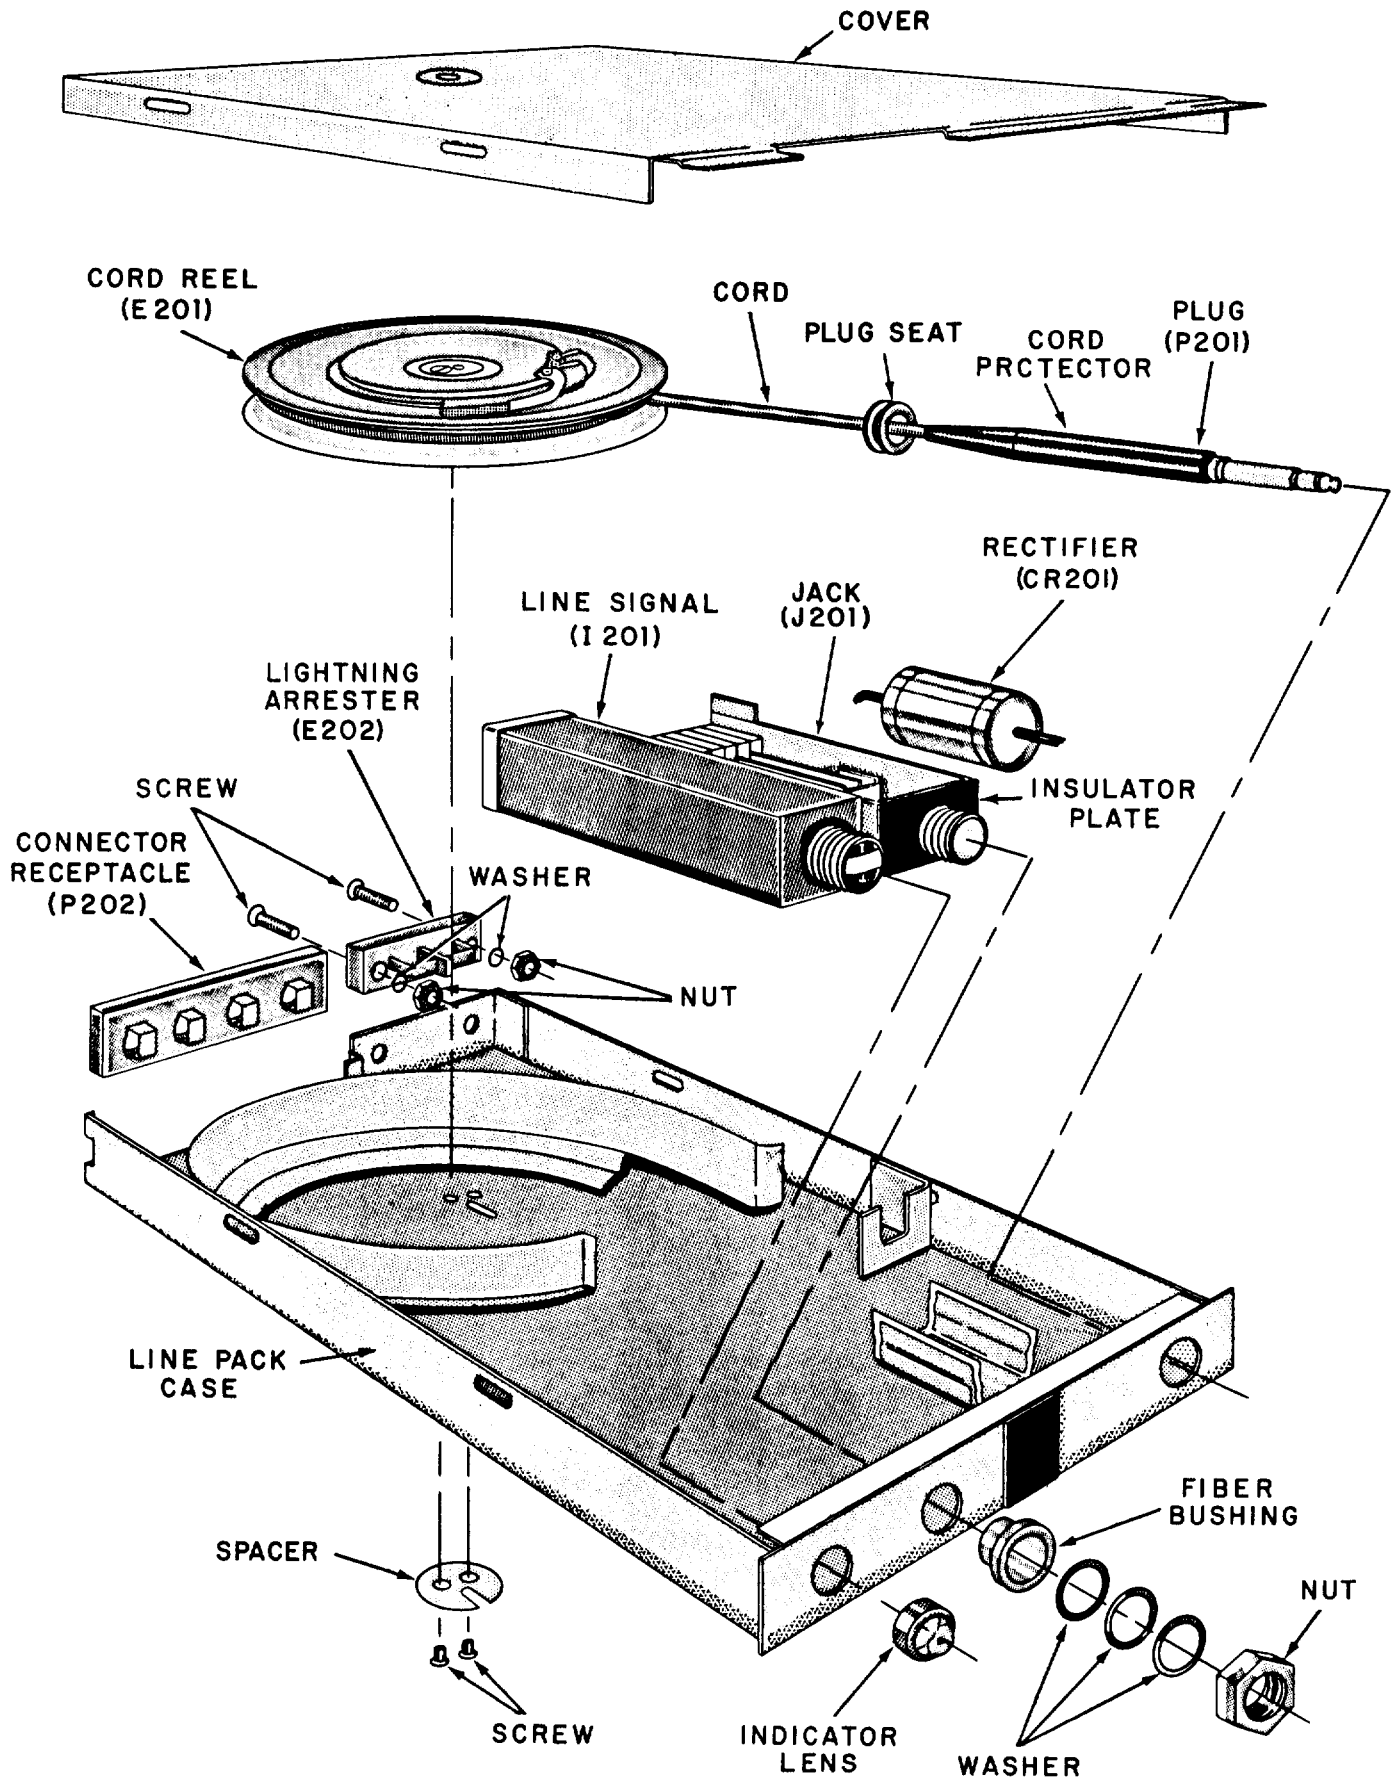
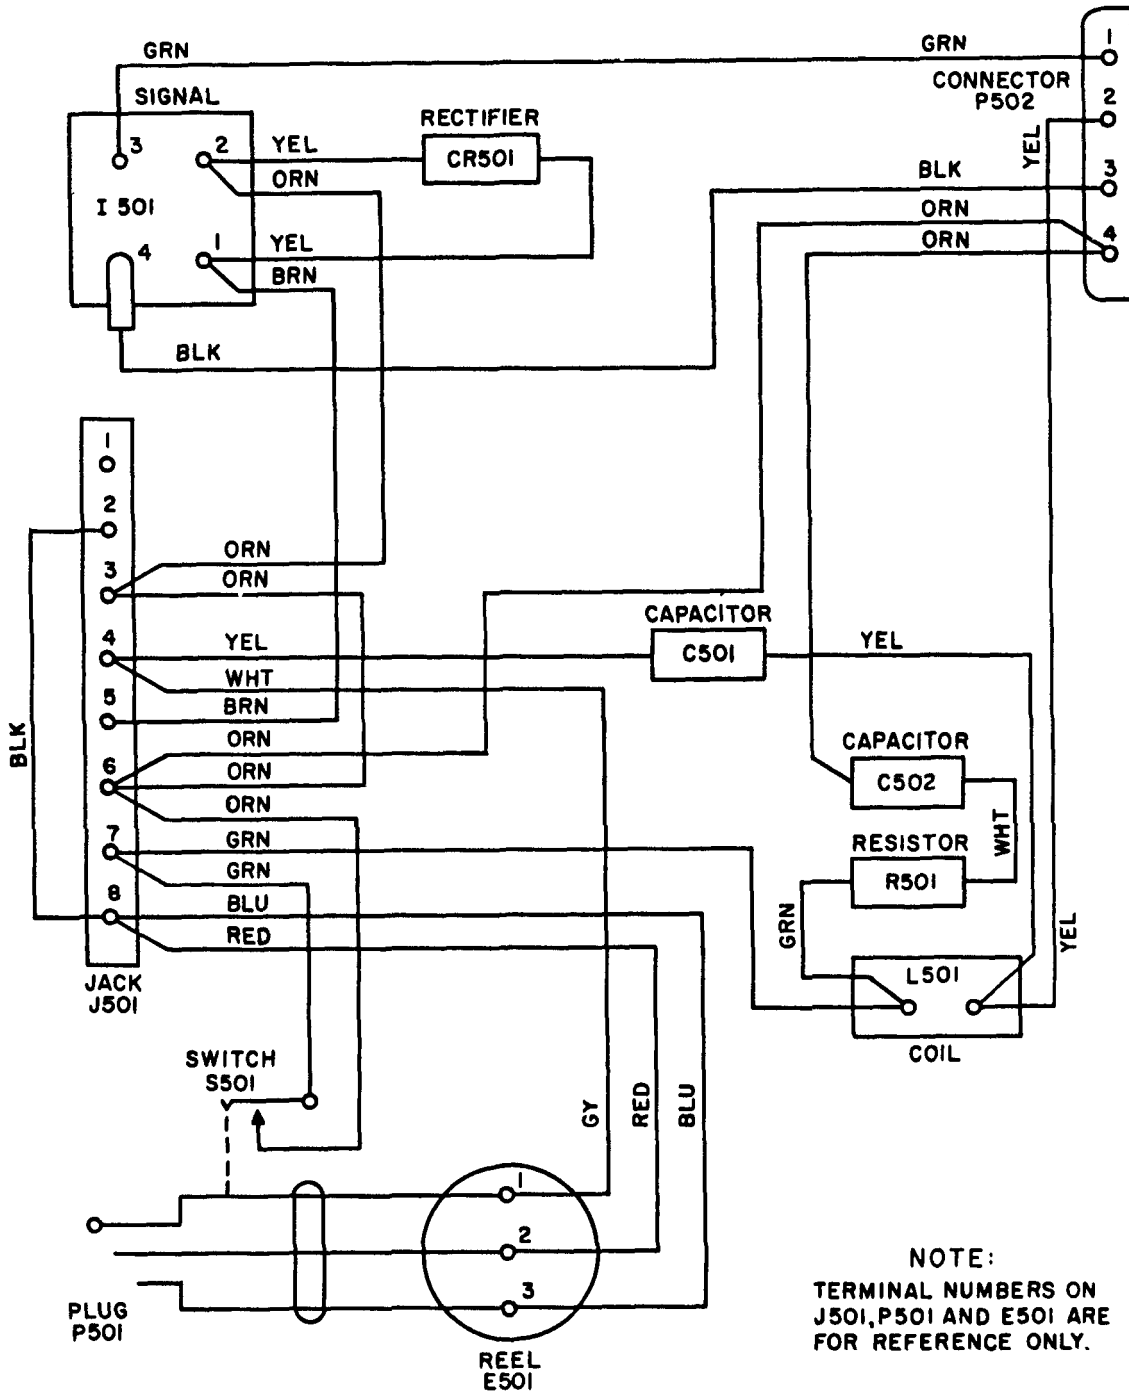

Figure 2-1. Telephone Circuit, Line Jack TA-222/PT, Exploded View.
Figure 2-3. Telephone Circuit, Trunk Jack TA-326/PT, Wiring Diagram.
#### 2-11. Removal of Line or Trunk Pack Cover (fig. 2-1 or 2-2)
#### 2-12. Removal and Replacement of Line or Trunk Pack Cord and Plug (fig. 2-1 or 2-2)
(1) Slide the plug seat on the new cord.
(2) Slide the terminal end of the new cord into the slot in the cord reel.
(3) Connect the new cord to the terminals on the cord reel. (See figures 2-3 and 2-4 for the correct connection of the cord to the cord reel terminals.) Position the stay cord on the proper screw and make sure that each lead is connected to the correct terminal.
(4) Replace the nuts on the three screws. Do not fasten the nuts so tightly that the screws or cord reel is damaged as a result.
(1) Connect and solder the leads from the cord reel to the trunk or line jack; make sure that the leads are connected to the correct jack terminals (figs. 2-3 and 2-4).
(2) Position the cord reel in the trunk or line pack; make sure that the cord reel leads are correctly positioned.
(3) Replace the two screws and spacer on the bottom of the line or trunk pack case.
(1) Wrap the cord around the cord reel in a clockwise direction.
(2) Pull the cord off the reel, counting the number of turns made by the cord reel. Stop winding the cord reel when the reel has been wound the same number of turns that the removed reel was unwound in *a(2)* above. It will be necessary to partially rewind the cord so that the required number of turns can be obtained.
(3) While holding the cord reel, rewind the cord on the reel.
(4) Slide the plug and part of the cord through the hole in the front of the line or trunk pack case, and replace the plug seat in the plug seat bracket of the case.
(5) Check the tension on the cord reel. Pull a short length of cord off the cord reel, and release it. The cord reel should retract the cord easily but not violently. Pull the cord out to its full length. It should pull out easily and should not be stopped before the end of the cord is reached. Do not release the cord when fully extended but keep it in control and allow it to rewind slowly.
**2-13. Removal and Replacement of Connector Receptacle P202 or P502 (fig. 2-1 or 2-2)**
*b.* Connect and solder the leads to the terminals on the replacement receptacle. Make sure that the leads are connected to the proper terminals (fig. 2-3 or 2-4).
**2-14. Removal and Replacement of Line Jack J201 or Trunk Jack J501 (fig. 2-1 or 2-2)**
(1) Disconnect and tag all of the leads connected to the jack, and note the position of each lead.
(2) Unscrew the hexagonal nut from the front of the jack.
(3) Remove the three flat washers and the fiber bushing from the front of the jack.
(4) Slide the jack toward the rear of the line or trunk pack until it clears the front of the pack. Be careful not to damage the plunger in line or trunk signal I201 or I501 during removal of the jack.
(1) Slide the insulator plate onto the front of the jack.
(2) Slide the jack into the hole in the front of the line or trunk pack case. Make sure the hole in the jack frame is positioned so that the signal indicator plunger makes contact with the spring pileup of the jack.
(3) Replace the fiber bushing, three flat washers, and hexagonal nut. Position the fiber bushing so that the flat portion fits into the flat portion of the hole. Tighten the hexagonal nut with a wrench.
(4) Connect and solder the leads to the jack terminals, (fig. 2-3 or 2-4) and dress the wiring.
(5) After installation, adjust tip of spring (by bending) to depress reset plunger of line signal I201 or I501 to .010 inch - .015 inch of pretravel.
- (1) Connect and solder the leads to the proper terminals of the line or trunk signal (fig. 2-3 or 2-4).
- (2) Slide the signal into the hole in the front of the line or trunk pack case. Be careful not to damage the indicator ball in the front of the signal or the signal plunger when installing the signal in the hole of the case.
- (3) Replace the indicator lens, and tighten the lens handtight.
- (4) After installation, adjust tip of top spring of jack J201 or J501 (by bending) to depress signal reset plunger to .010 inch - .015 inch of pretravel.